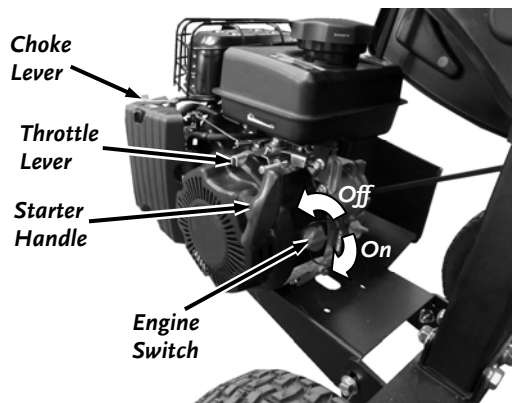

Figure 14
2. Move the choke control lever to the CHOKE position to the right (should only be needed if the engine is cold) (**Figure 14**).
1. Move the Throttle Lever to Idle “Turtle” position ((**Figure 14**)).